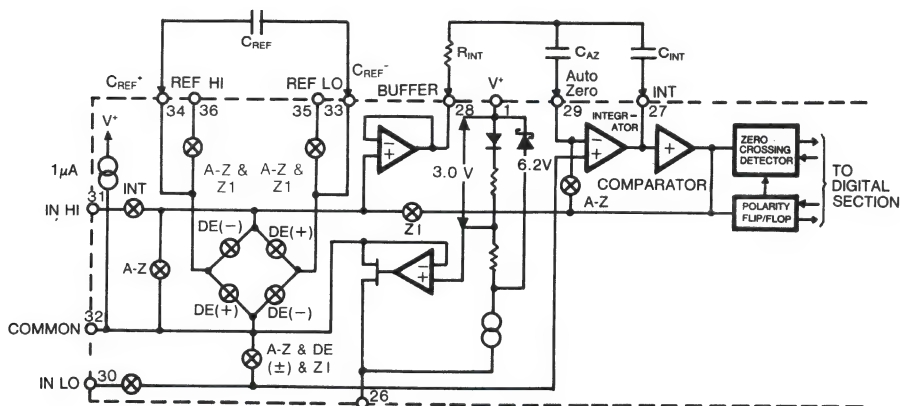

Fig. 12. Analog Section of GM7136
Figure 12 shows the Block Diagram of the Analog Section for the GM7136. Each measurement cycle is divided into four phases. They are 1) auto-zero (A-Z), 2) signal integrate (INT), 3) de-integrate (DE) and 4) zero integrator (ZI).